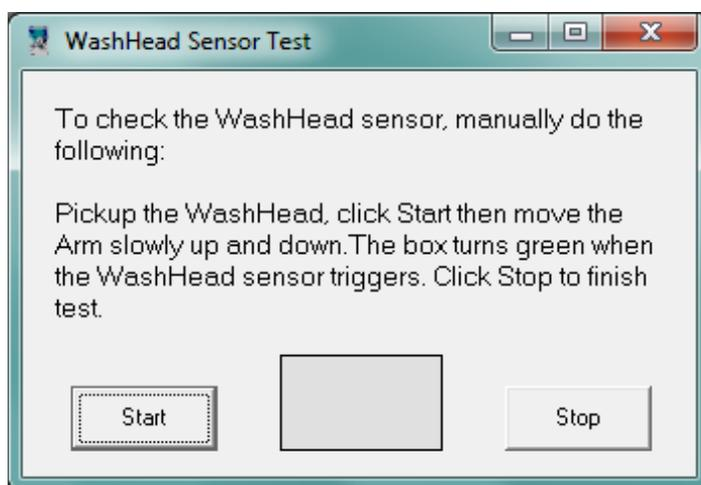

Fig 5-71 WashHead Sensor Test Window
16. Close the *Valves* window and select **Sensors** on the *Pretest* menu to present the WashHead sensor test window (Fig 5-71).